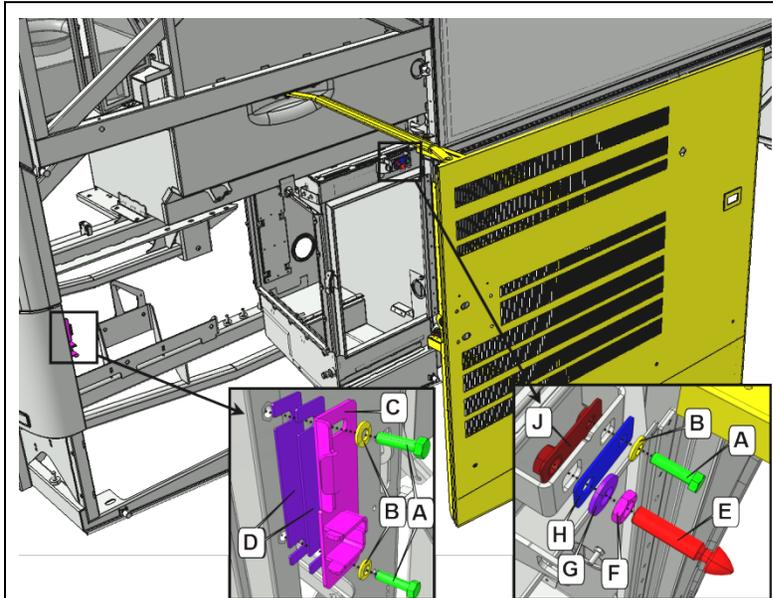

FIGURE 1: DOOR INSTALLATION – LATCH SYSTEM
1. To adjust the position, the door must be free to move without any restriction. Loosen pin E and strike plate C (Figure 1) to allow slight component movements.